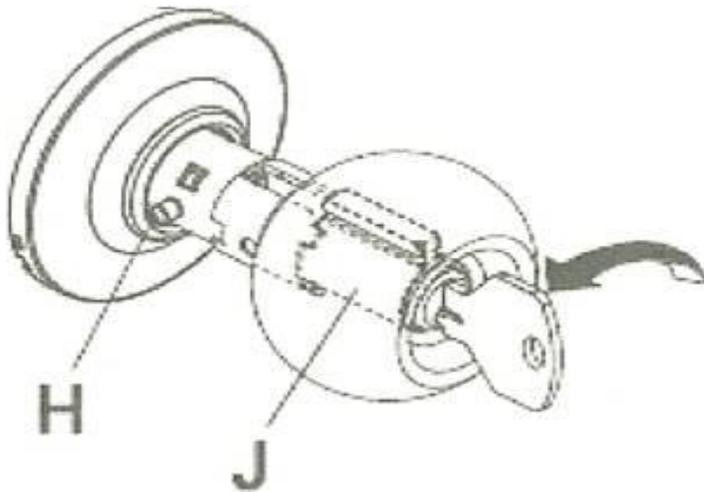

FIGURE 9-2
Install Hardware	<ol style="list-style-type: none">5. Install lockset and strike plate per instructions.<ol style="list-style-type: none">a. Be sure door latches easily but tightly with little rattleb. If it rattles. Bend tab inside the strike plate with flat blade screwdriver6. Install the security deadbolt strike plate (not that provided with lockset).<ol style="list-style-type: none">a. Set strike plate in place, predrill into Jack stud with 3/16” bit, secure with two large screws providedb. Make sure deadbolt is installed so top of lever turns in the direction of bold travel. If it does not, remove deadbolt from door, rotate 180° and reinstall7. Install lockset per instructions and make sure lockset and deadbolt key direction is the same (notches up). See Fig. 9-2 (Reveres side). If not:<ol style="list-style-type: none">a. Unlock the lock and insert the key half-way (do not insert completely)b. Push in retainer pin (H) on neck of knob, pull knob just past the pinc. Holding knob, rotate cylinder (J) to correct orientationd. Push in pin and push knob back in place.8. Verify Lockset and deadbolt operation. Adjust as needed for easy operation, door closes snugly, latches with little effort, deadbolt engages/disengages easily and moves in same direction as top of lever (Fig. 9-2 next page)